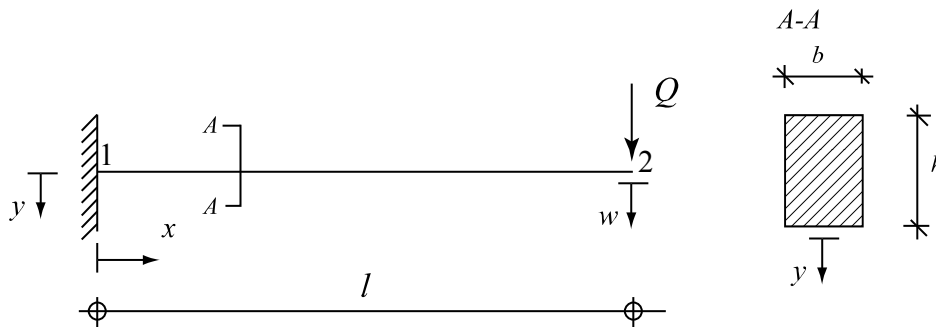

Figure 1: Cantilever beam.
- B)** Calculate the vertical displacement w at the point 2 for the cantilever beam shown in Figure 1 for the different discretisations of the elements in x -direction and y -direction given in Table 1. Plot the displacements over the number of elements in x -direction and the number of elements in the y -direction. Compare the results with an analytical solution and discuss the convergence. Which of the discretisations reflects appropriately the stresses in the beam?
Table 1: Discretisations of the cantilever beam given in Figure 1.